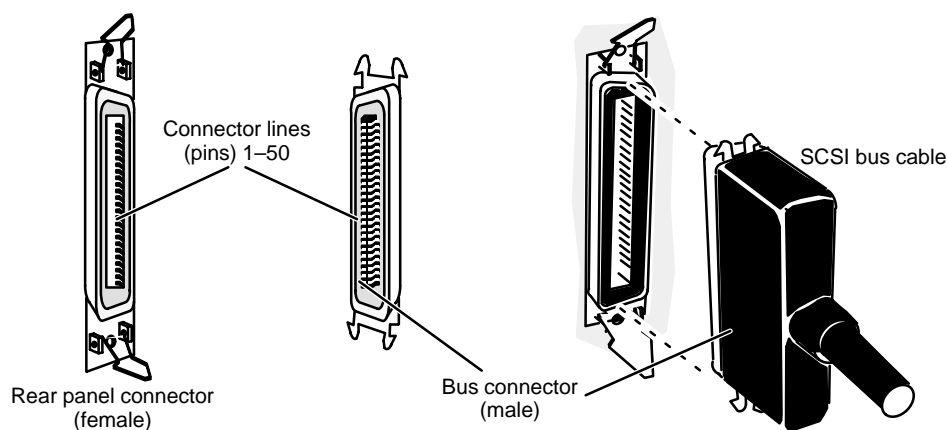

Figure 4-9 Plugging Together SCSI Bus Connectors
3. Align the cable's D-shaped connector and gently insert the cable in the rear panel connector as shown in Figure 4-9.